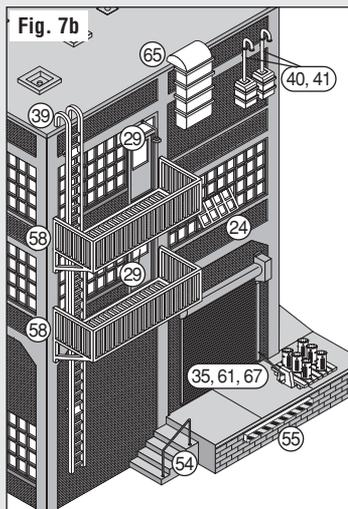

Fig. 7b
Right Side (Fig. 7b): Ladder (39), Fire Escape 2x (58), Door Light 2x (29), Exhaust Vent (65), Electrical Mast Assembly 2x (40, 41), Window Insert (24), Steps Railing (54), Dock Bumper (35, 61, 67), Pallet Assembly (55)